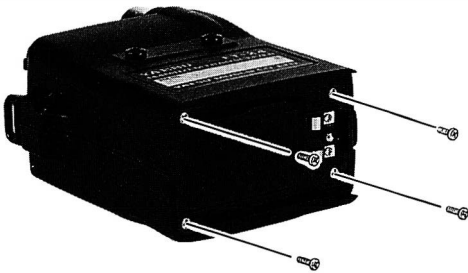

Fig. 1
- ❑ Referring to Figure 1, remove the four screws on the bottom, and carefully remove the bottom cover (but not its wires).